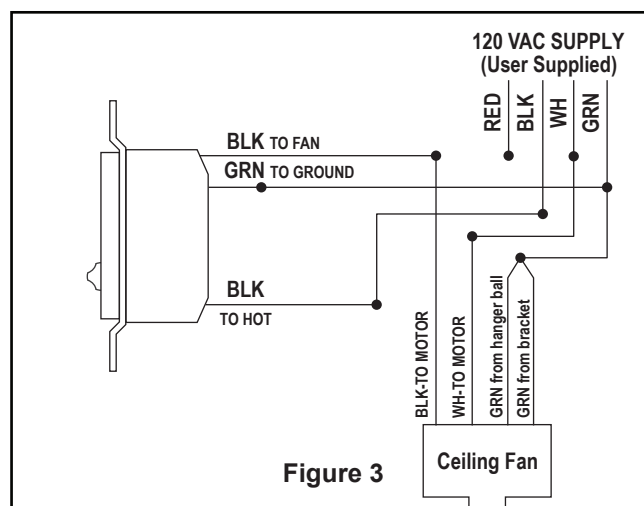

Figure 3
Wiring Wall Control (Figure 3):
- ☐ • Make wiring connections with wire nuts as shown in Figure 3.